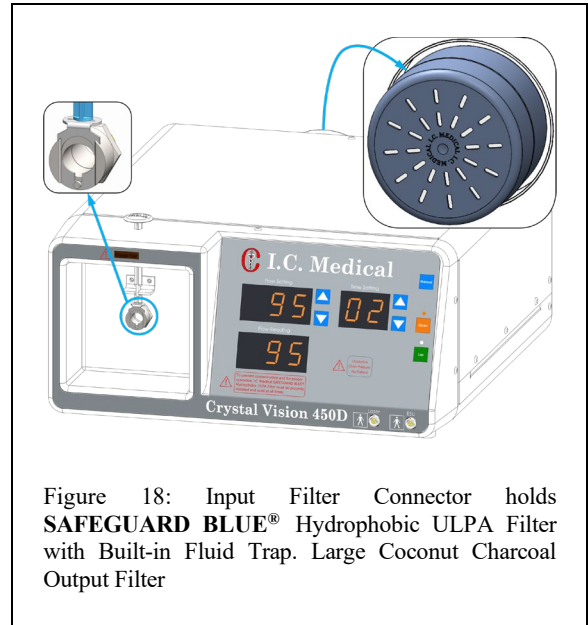

Figure 18: Input Filter Connector holds **SAFEGUARD BLUE®** Hydrophobic ULPA Filter with Built-in Fluid Trap. Large Coconut Charcoal Output Filter
14. **INPUT FILTER CONNECTOR** (Figure 18) holds the **SAFEGUARD BLUE®** Hydrophobic ULPA Filter with Built-in Fluid Trap. The metal ring is pushed down to allow the **SAFEGUARD BLUE®** Hydrophobic ULPA Filter with Built-in Fluid Trap, to be released. Replace cap on end of **SAFEGUARD BLUE®** Hydrophobic ULPA Filter with Built-in Fluid Trap between uses. Change the **SAFEGUARD BLUE®** Hydrophobic ULPA Filter with Built-in Fluid Trap when CHANGE FILTER indicator illuminates.
15. **Large Coconut Charcoal OUTPUT FILTER CONNECTOR (connector not shown)** (Figure 18). The Large Coconut Charcoal OUTPUT FILTER CONNECTOR is located on the back panel of the CRYSTAL VISION®. The Large Coconut Charcoal Output filter- is reusable for several cases. The Large Coconut Charcoal Output filter has a functional life of three months. The Large Coconut Charcoal Output filter provides odor control and reduces vacuum pump noise.